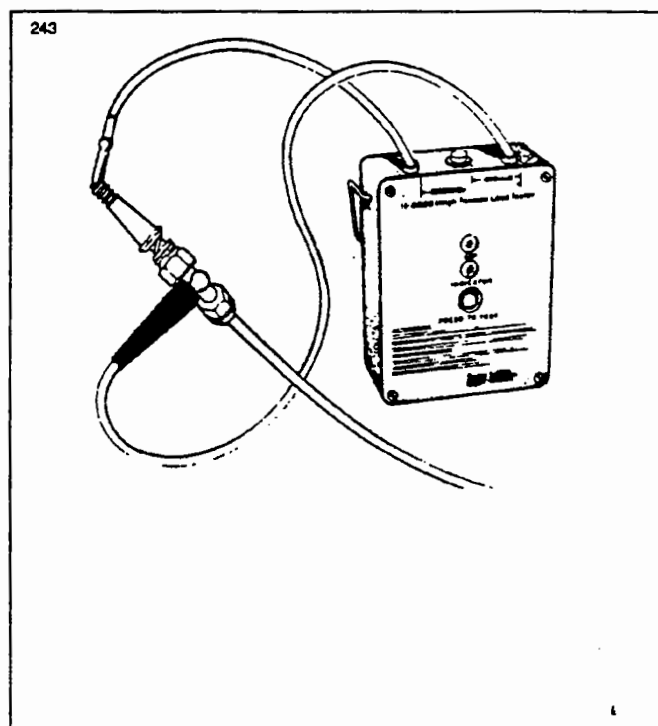

Figure 74-21. Checking Harness Lead Insulation Resistance
- A. Attach the red high voltage test lead to contact spring of harness lead. (Refer to Figure 74-21.)
- B. Attach the black test lead to the ferrule of the same harness lead. (Refer to Figure 74-21.)